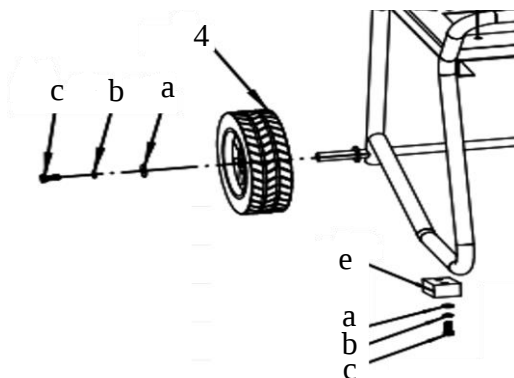

Fig. 2a
- Secure the wheels to the wheel axle using the provided flat washers (a), spring washers (b), and hex bolts (c). Refer to Fig. 2a and 2b.
- Attach the rubber pads to the bottom of the frame using the supplied flat washers (a), spring washers (b), and hex bolts (c). See Fig. 2a and 2b.